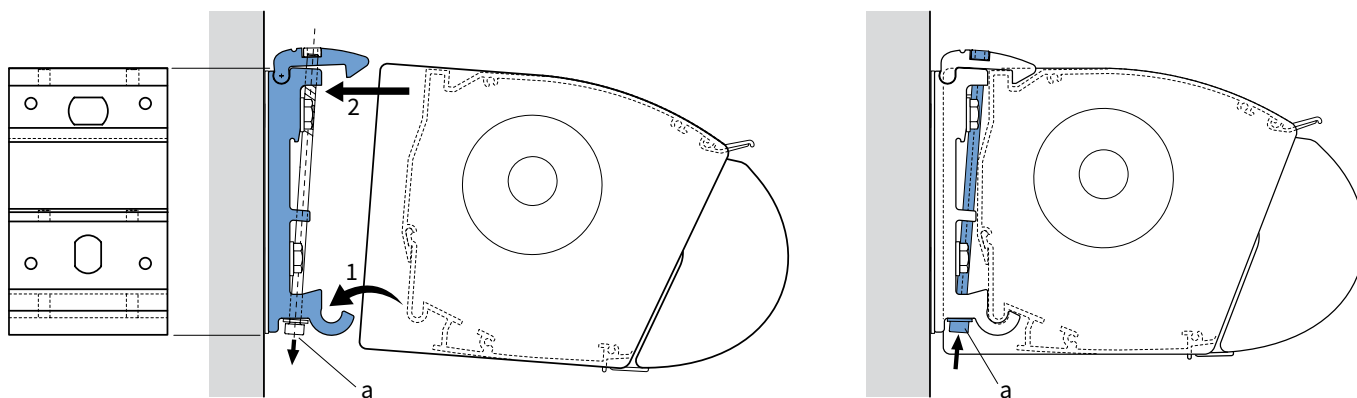

fig. 2.1 Placing the awning
1. Hang the awning in the wall supports. See figure 2.1.